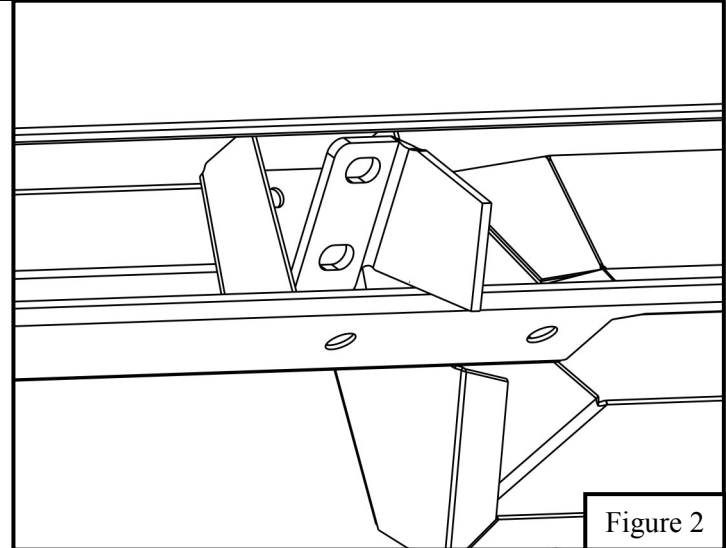

Figure 2
4. Tilt Board at angle to insert brackets into mounting locations. **See Figure 2**